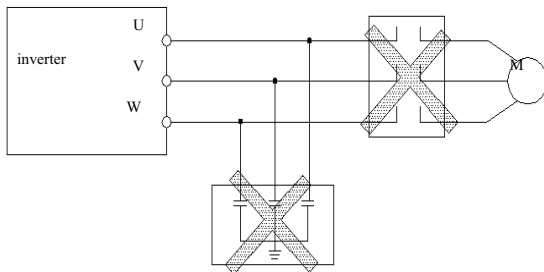

Fig.3-3 Forbid to use contactor and absorbing capacitor
- (1) Assure power be cut off completely for above 10 minutes before wiring, otherwise there is danger of getting electric shock.
- (2) Forbid connecting power wire to output U, V, W of the inverter.
- (3) If there is current leakage inside inverter, when current leakage greater than 5mA for medium & big power inverter, inverter and motor must be earth grounding for safety assurance, and the diameter of earth grounding copper cable is greater than 3.5mm², resistor less than 10Ω.
- (4) Before shipment compression resistance test of the inverter is passed, so users should not conduct compression resistance test again.
- (5) Do not add absorbing capacitor or other resistance-capacitor absorbing device between inverter and motor; also do not add electromagnetic contact, show as Fig.3-3
- (6) To provide inverter over-current protection in output side and convenient maintenance under power off, it should be connected to power source through relay.
- (7) Relay, input & output circuit wiring (X1~X7, Y1, Y2/DO, TA, TB, TC, AI1, AI2, AO, 485A, 485B) should select greater than 0.75mm² stranded wire or shielding wire. One end of the shielding layer hang in the air, and the other end connect to inverter earth grounding terminal, connection wire shorter than 20m.